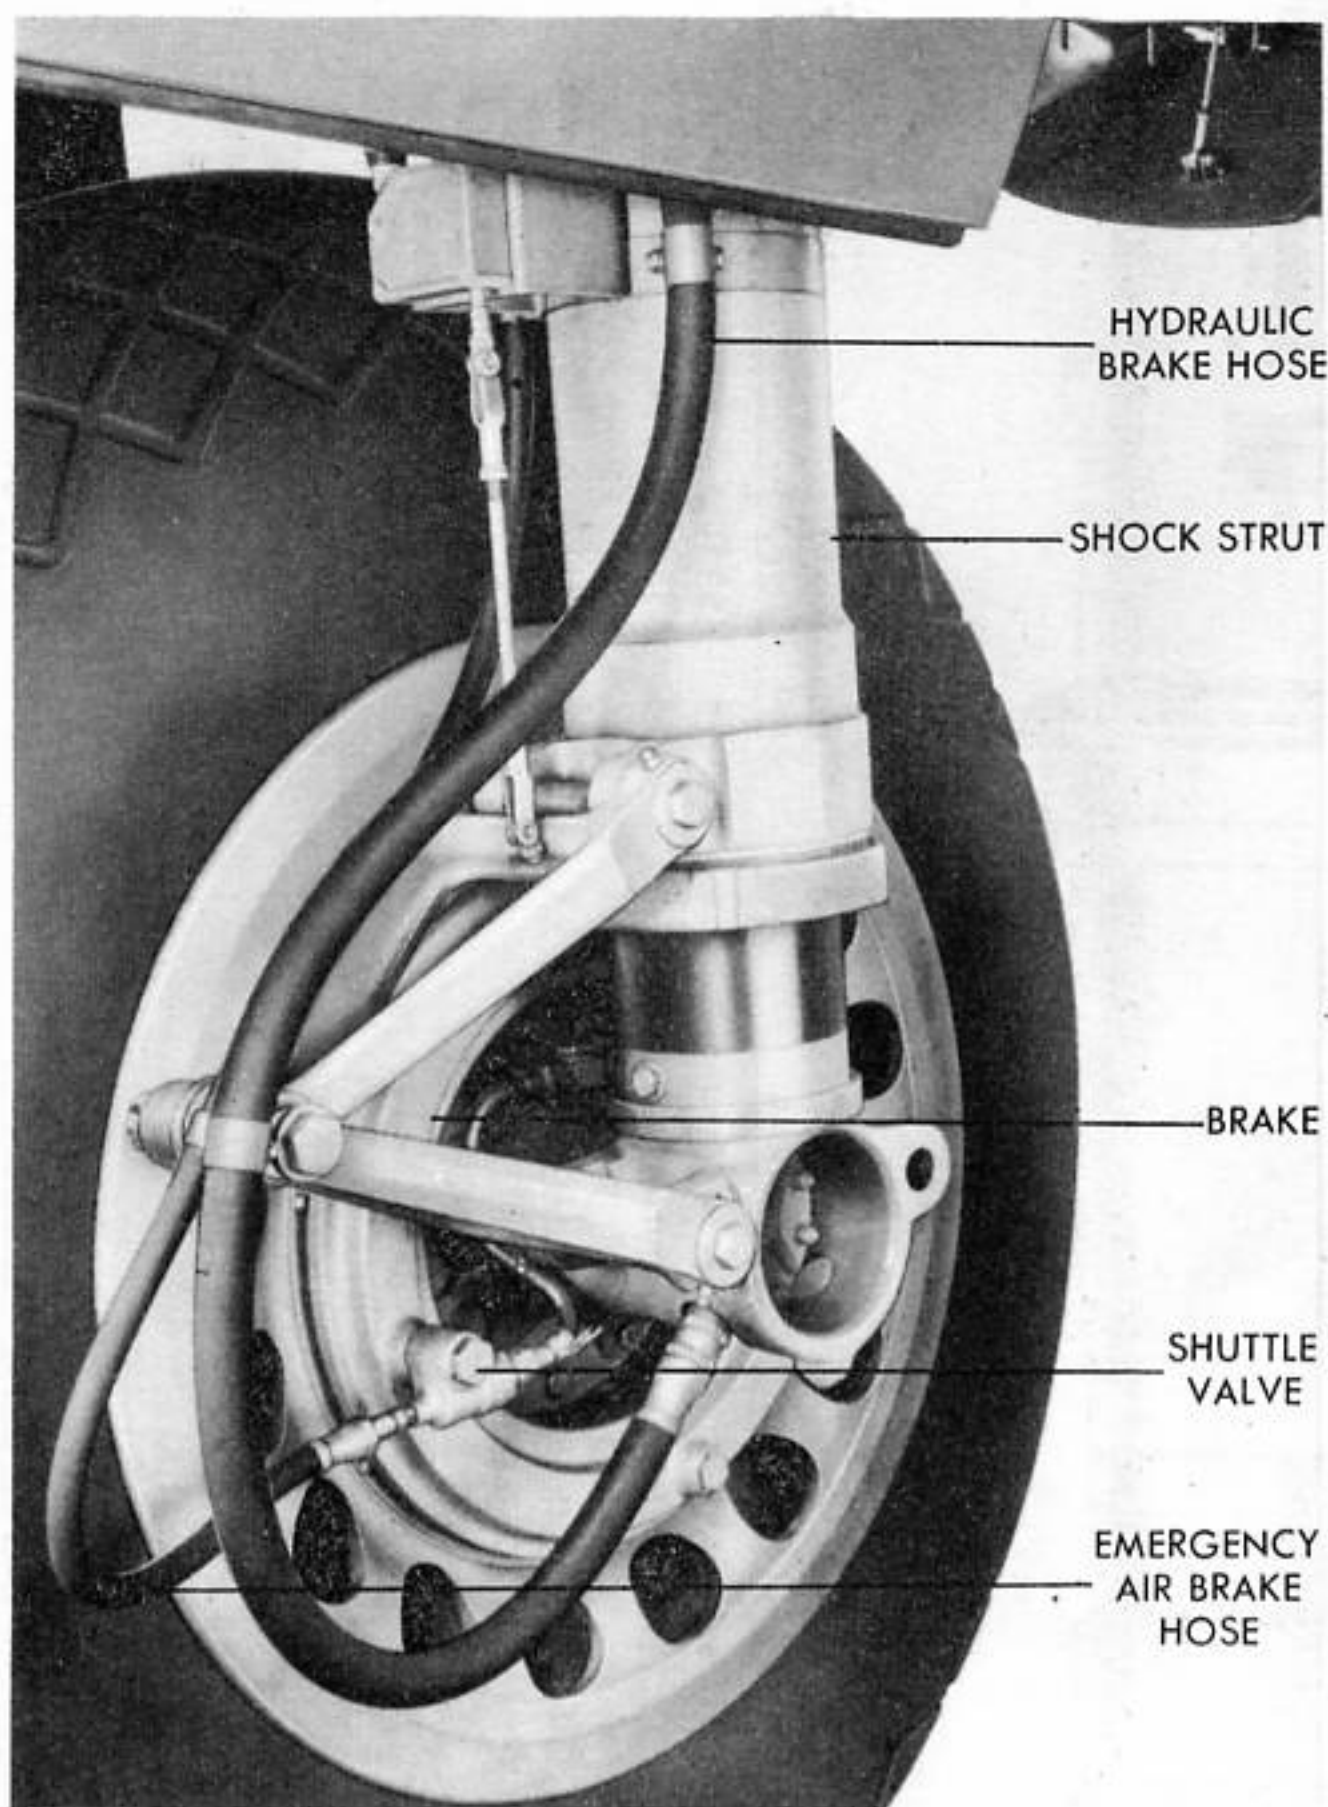

Figure 63 - WHEEL AND BRAKE
(6) MAIN ALIGHTING GEAR WHEEL. (See figure 63.) - Wheels of the alighting gear are one-piece castings of aluminum alloy. They are mounted on tapered roller bearings.
(7) MAIN ALIGHTING GEAR TIRE - On each wheel is mounted a 44-inch smooth contour 10-ply non-skid diamond tread tire and tube.
(8) BRAKES. (See figure 63.) - The brakes are hydraulically operated and of the disk type. There are 17 steel stationary plates and 16 bronze rotating plates. Adjustment is by means of an adjusting ring.